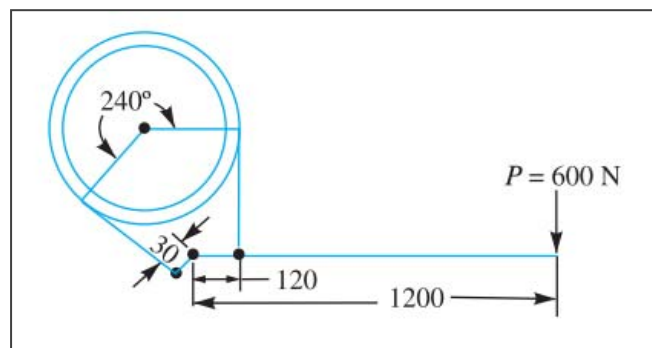

Fig Q7: Differential band brake (dimensions in mm)
- (c) A differential band brake is shown in Figure Q7. The diameter of the drum is 800 mm. The coefficient of friction between the band and the drum is 0.3 and the angle of embrace is 240° . When a force of 600 N is applied at the free end of the lever, find for the clockwise and anticlockwise rotation of the drum: